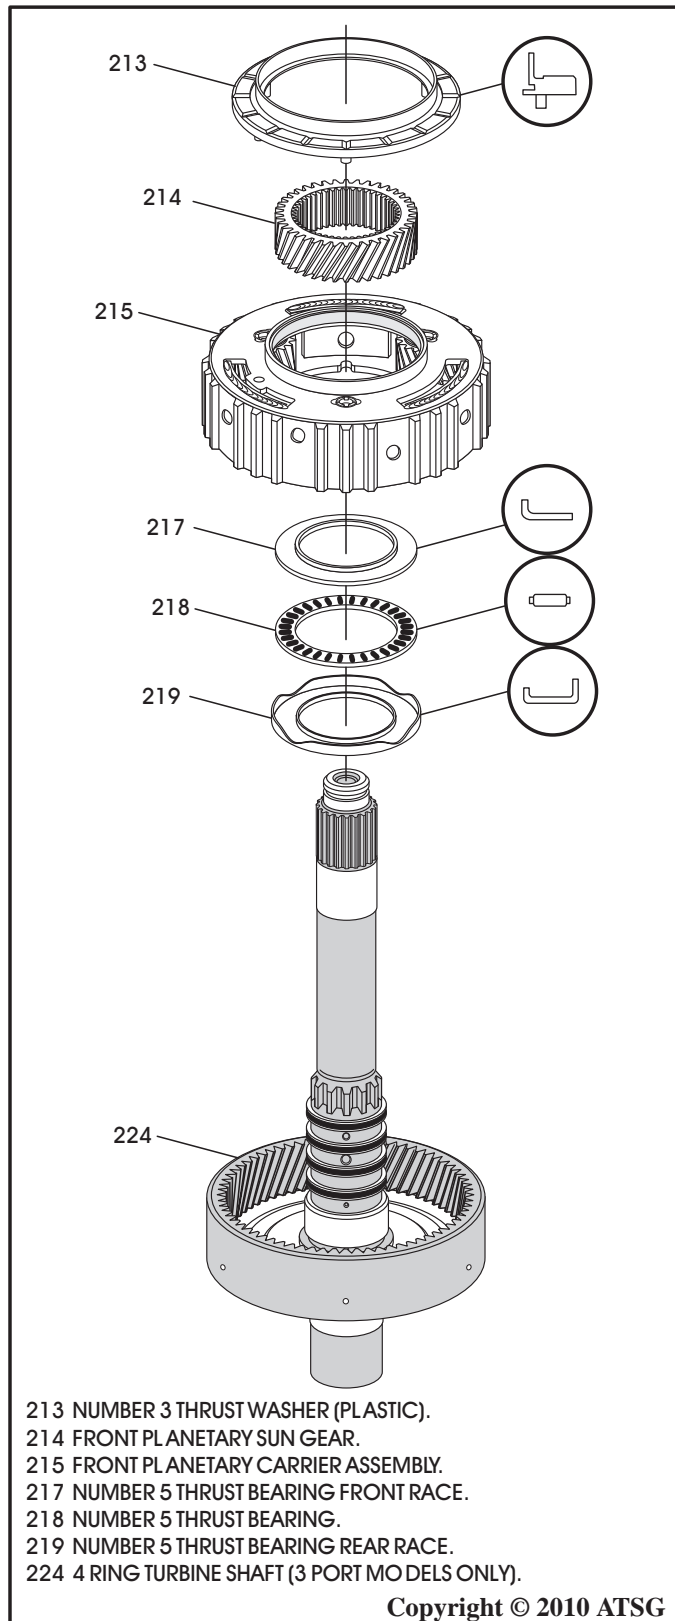

Figure 150
9. Install number 5 thrust bearing rear race, the number 5 thrust bearing and number 5 thrust bearing front race, as shown in Figure 150.
10. Install the completed front planetary carrier, as shown in Figure 150, by rotating into position.
11. Install the front sun gear into the carrier, as shown in Figure 150, by rotating into position.
12. Install number 3 (white plastic) thrust washer, as shown in Figure 150.